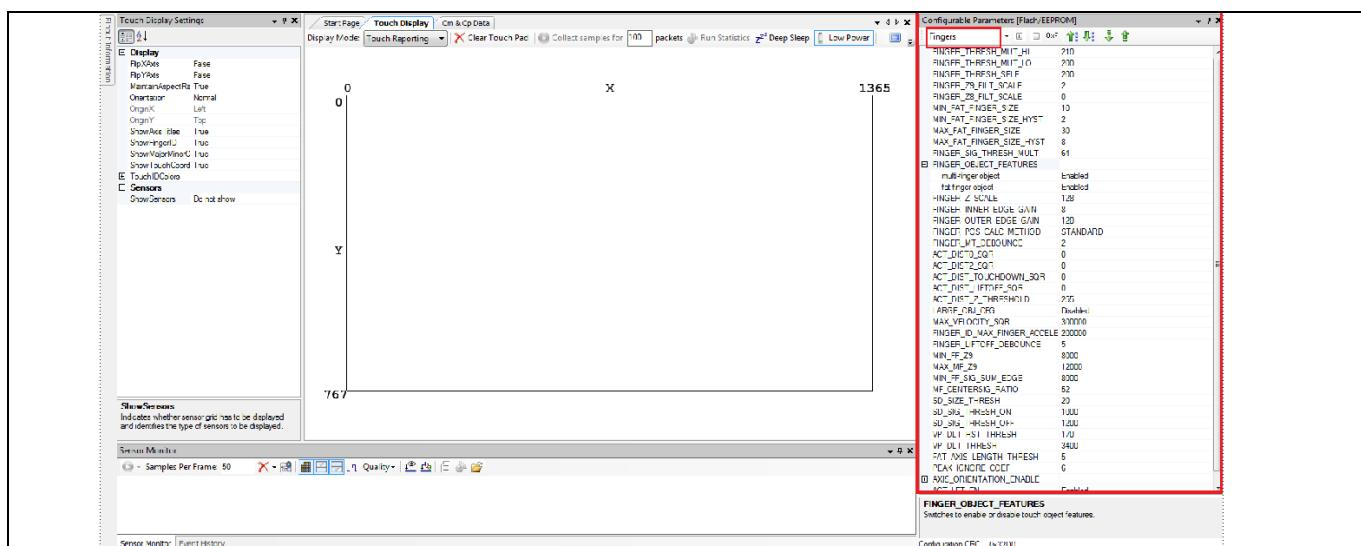

Figure 20 Configurable parameters window
2. If the Configurable Parameters window is not visible (see Figure 20), go to the TTHe menu bar and click on **View > Tool Windows > Configurable Parameters [Flash/EEPROM]**. The Flash Configurable Parameters window opens.